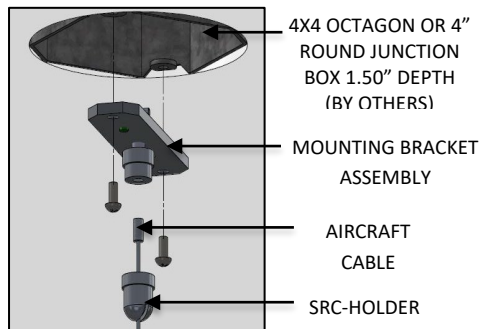

FIG. 14 – MOUNTING BRACKET
11. Feed the remaining AIRCRAFT CABLE through the SRC-HOLDER. Then assemble the SRC-HOLDER with AIRCRAFT CABLE to the SRC-BASE on the MOUNTING BRACKET ASSEMBLY. Secure the MOUNTING BRACKET ASSEMBLY to the JUNCTION BOX (by others) as shown below in FIG. 14.